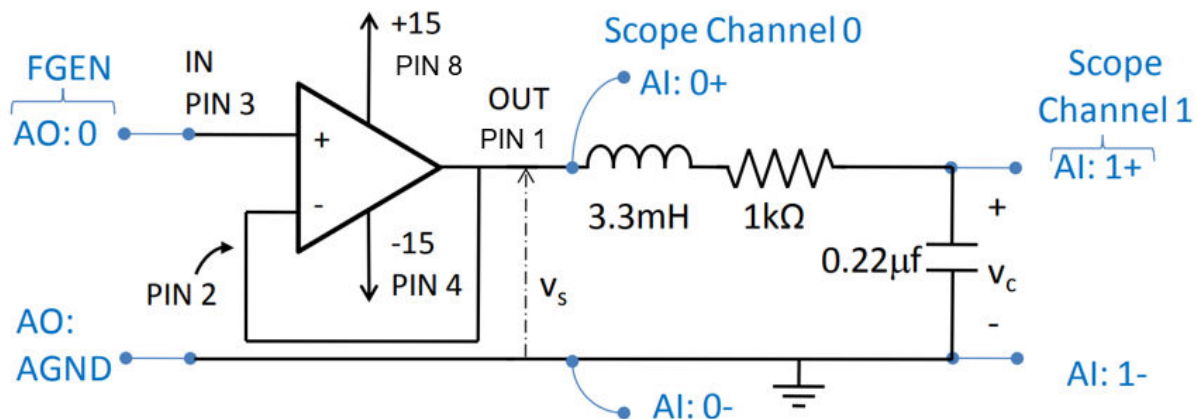

Figure 11: RLC Circuit Showing Unity Gain Op Amp and myDAQ Connections
- a. Use the breadboard to build the circuit in Figure 11.